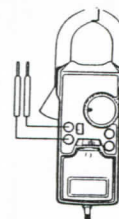

Fig. 2
- 1) Insert the plugs of the test leads into "V" terminals. (See Fig. 2)